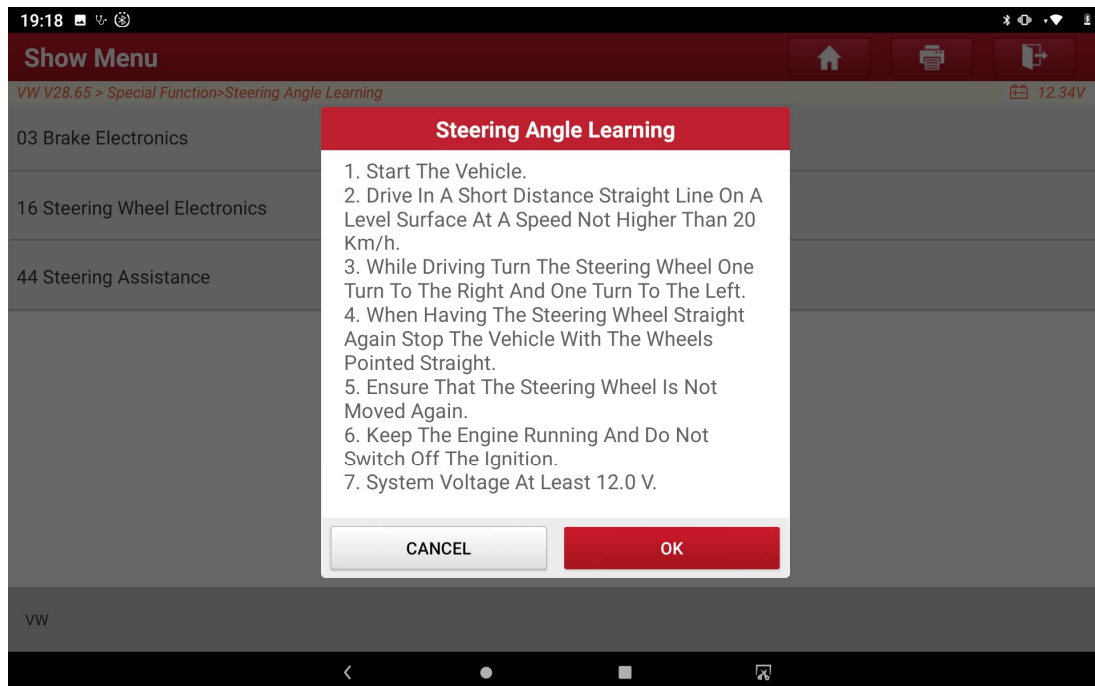

Figure1
6. Check the prompts carefully and operate according to the prompts to confirm whether the conditions are met before learning: start the car; drive a short distance in a straight line at a speed not higher than 20km/h on a horizontal road, rotate the steering wheel to the left and right, and return to the middle ; If the steering wheel remains in the right position during driving, keep the steering wheel position and stop; during the learning process, ensure that the steering wheel does not rotate, turn on the ignition switch and keep the engine running; the system voltage is not less than 12.0 V. Such as Figure 1: